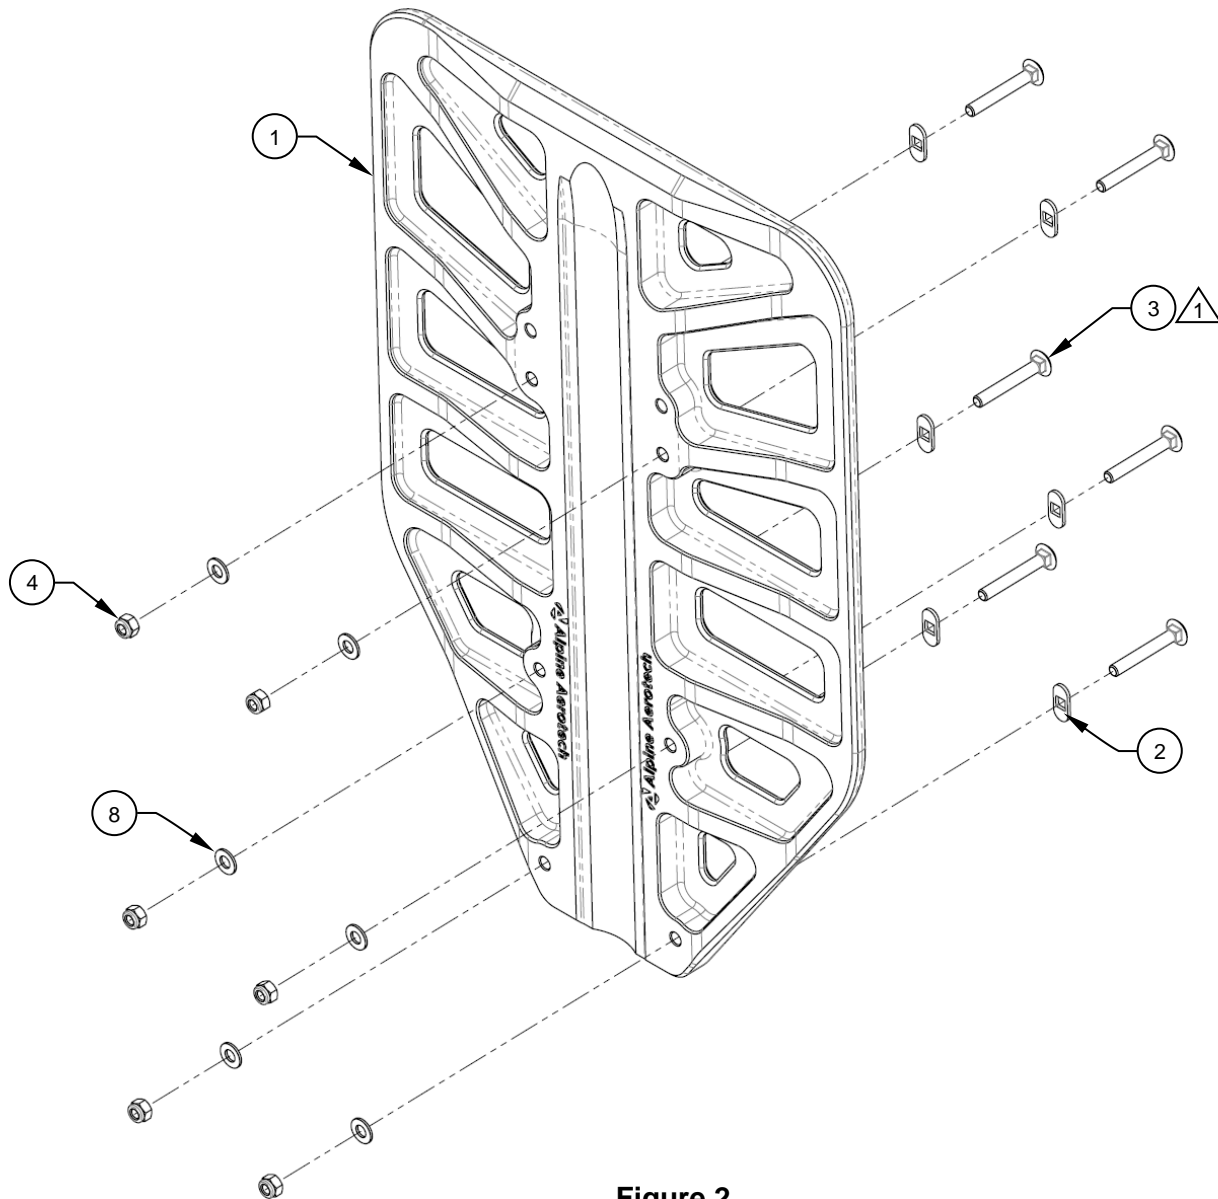

Figure 2
1. Pre-install the supplied hardware as shown. Reference Figure 2. Torque fasteners to 40 in-lbs. (plus tare torque).